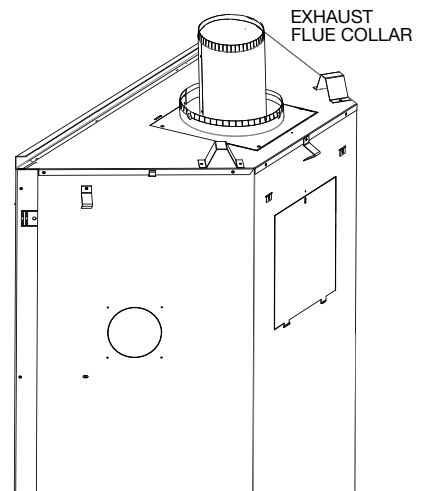

Fig. 3
- H. From inside the firebox, install the 4" (101.6mm) exhaust collar with gasket up through the top of the firebox, and secure with the the 4 hex head 3/4" black screws supplied in the manual baggie (**Fig. 3**).